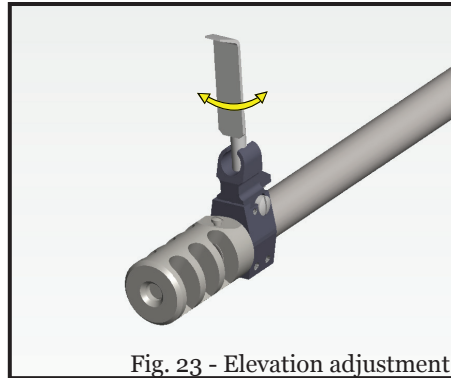

Fig. 23 - Elevation adjustment
1. Turn the bead with special tool provided with sights (Fig. 23).